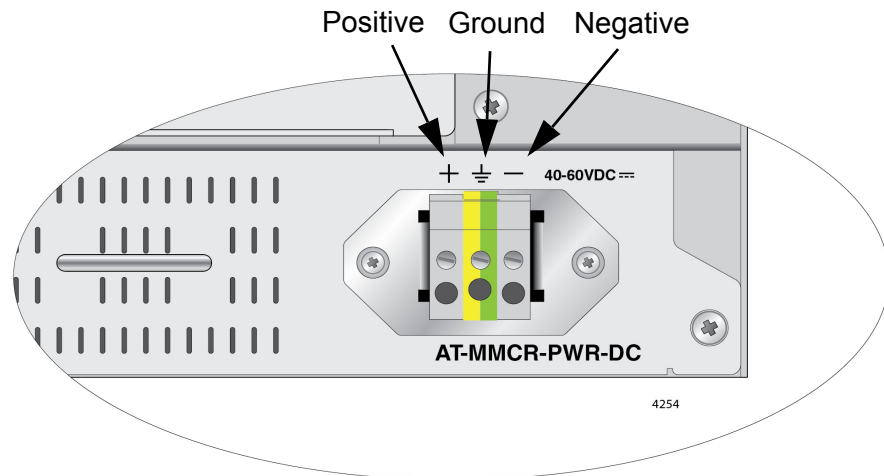

Figure 20. Locating the Terminals on the DC Terminal Block
1. Identify the **positive**, **ground**, and **negative** terminals on the DC power supply terminal block, as shown in Figure 20.